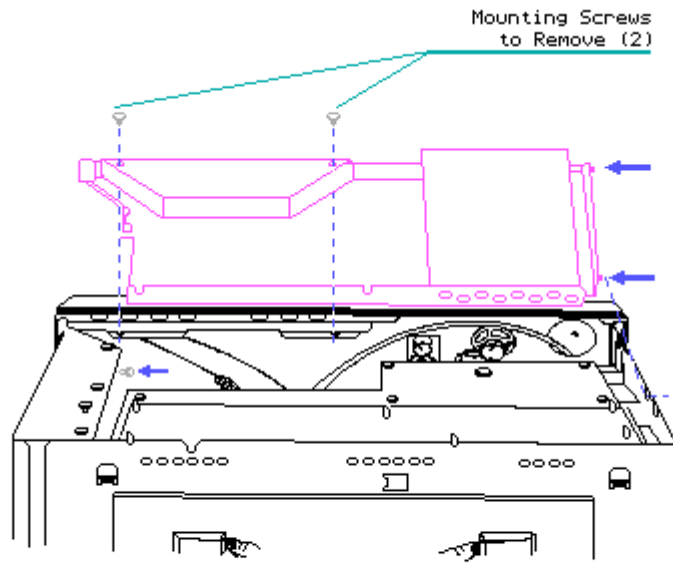

Figure 7-31. Removing the Cable Tray Access Plate
4. Using a Torx screwdriver, loosen (DO NOT REMOVE) the seven Torx screws that secure the cable tray access plate to the system chassis. Remove only the two mounting screws noted in Figure 7-31.